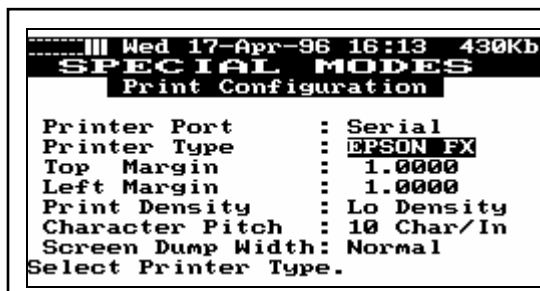

Figure 15
**SM7** **Configure Printer.** After pressing the **[ENTER]** key, the screen will display the “SPECIAL MODES Print Configuration” banner. In the lower area of the screen are seven fields. (See Figure 15.)